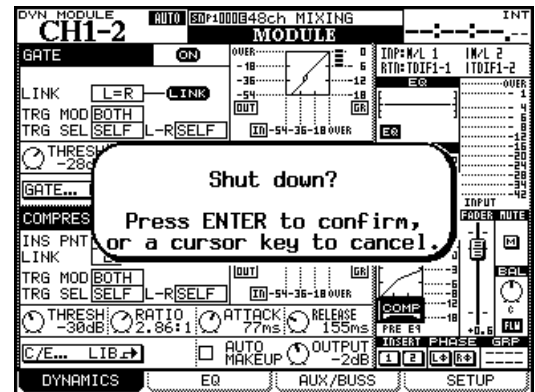

Figure 2.27: Shutting down the DM-4800
- 3 A popup message (Figure 2.27, *Shutting down the DM-4800*) appears. Press **ENTER** to continue with the shutdown, or any of the cursor keys to cancel the operation.